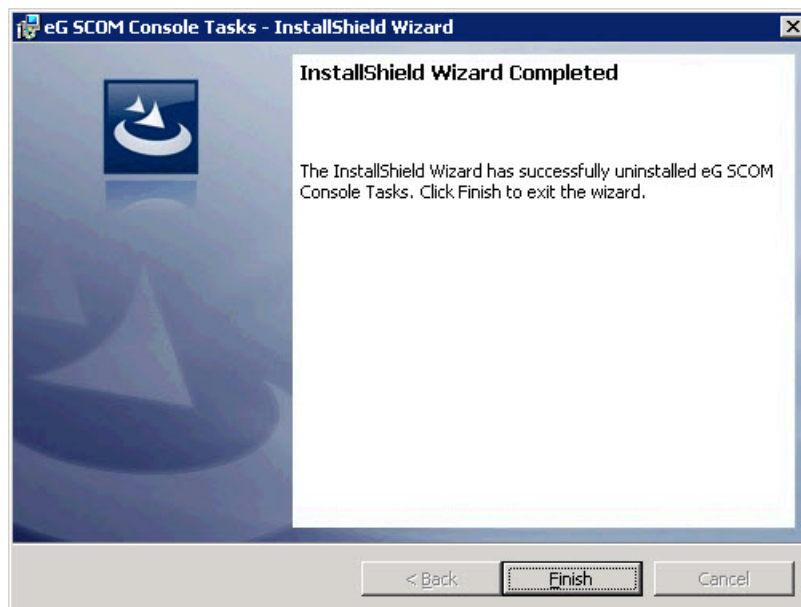

Figure 4.54: The completion of the uninstallation of the eG SCOM Console Tasks application
7. Upon successful uninstallation of the application, the message depicted by Figure 4.54 will appear. Click the **Finish** button in Figure 4.54 to exit the wizard.